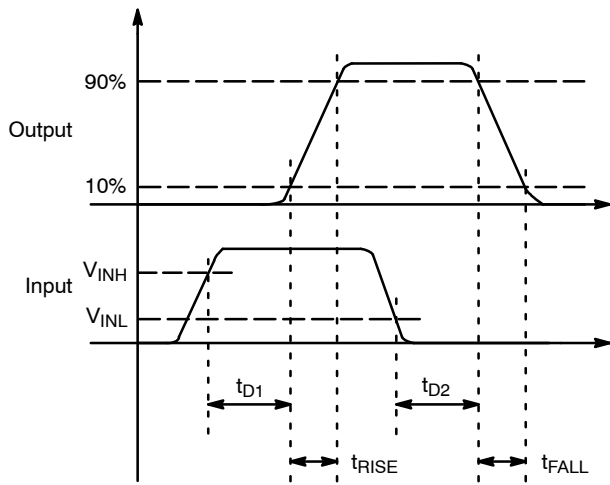
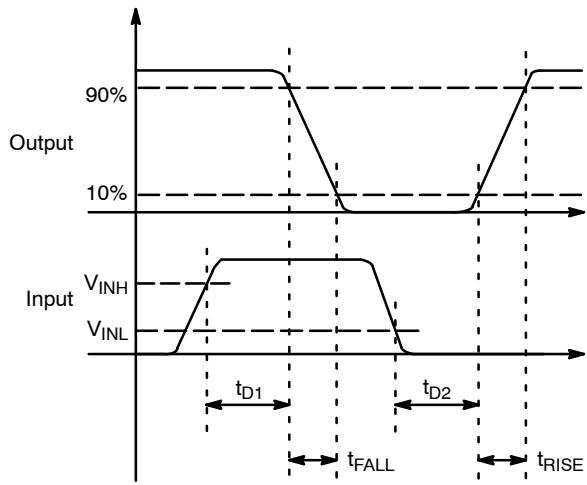

Figure 9. Non-Inverting (EN HIGH or Floating)
Figure 10. Inverting (EN HIGH or Floating)
12. See *Timing Diagrams of Figure 9 and Figure 10*.